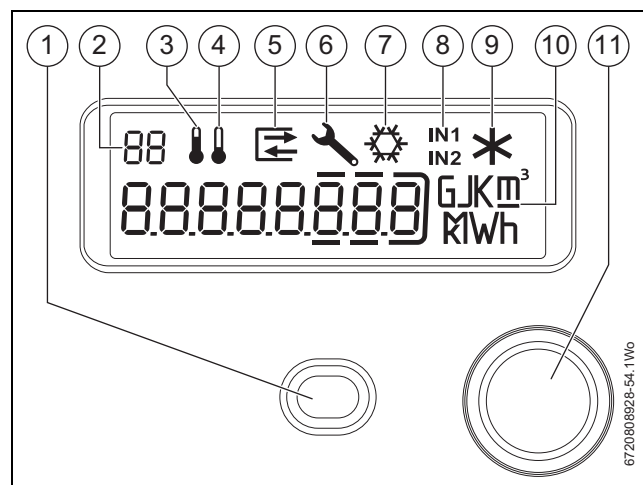

Fig. 50
- ▶ Press the navigation button [11], figure 50 to cycle through the following categories: